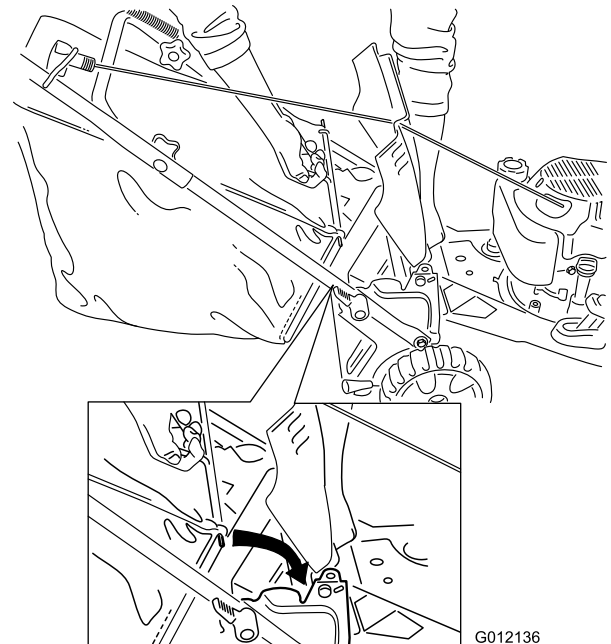

Figure 16
2. Raise and hold up the rear door, install the bag in the notches, and lower the rear door (Figure 16).